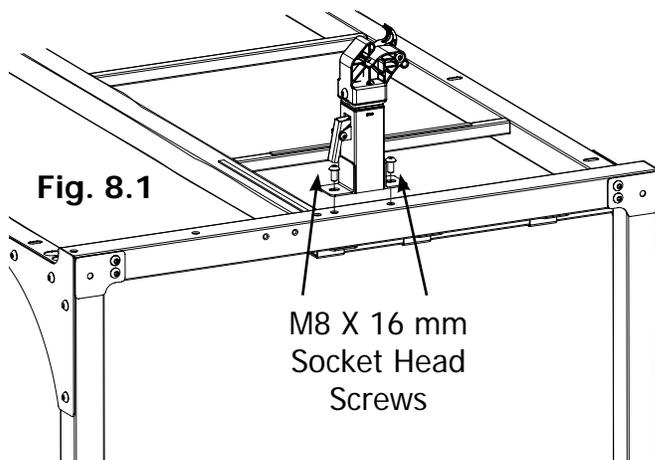

Fig. 8.1
8-1: Attach (1) Right Take Up Rail Bar to the Right Side Assembly using (2) M8 X 16 mm Socket Head Screws, as shown in Fig. 8.1.